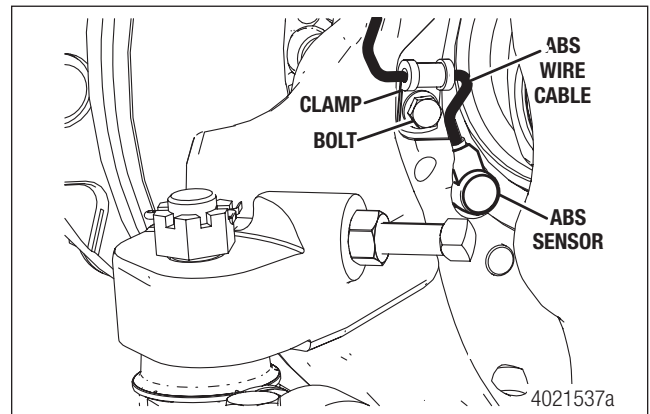

Figure 9.5
2. Remove the ABS sensor wire clamp bolt. Figure 9.5.